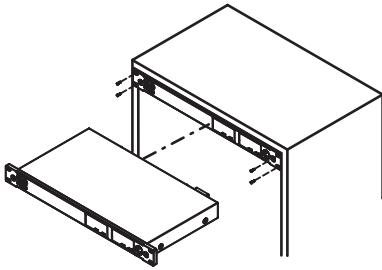

Fig. 6
1. Receivers can be installed on an EIA standard 19-inch rack case. For improving reception, an optional rear-to-front antenna cable installation through rackmount screw holes 1 is highly recommended, Fig. 6.